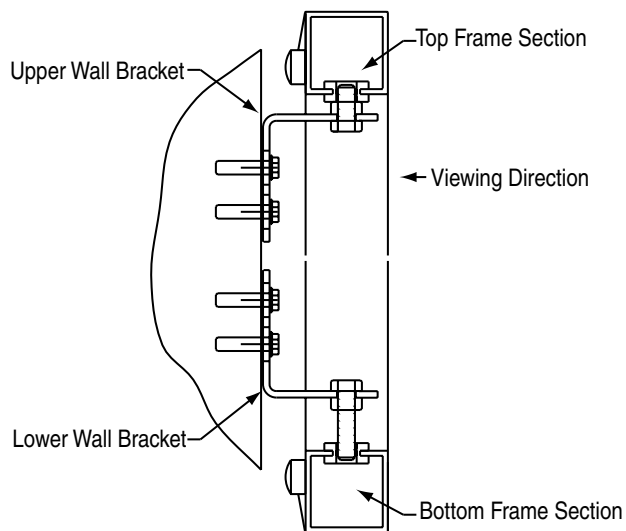

Figure 5
- ⑧ Carefully mount the frame on the wall brackets. With the screen tilted out slightly at the top, engage the bottom frame section with the studs on the lower wall brackets. Push the frame up until the top section of the frame is above the upper wall brackets, then tilt the frame toward the wall. Push the frame down until the studs completely engage with the holes in the top frame section. When properly installed, the frame should be engaged with all of the wall brackets (see Fig. 5).